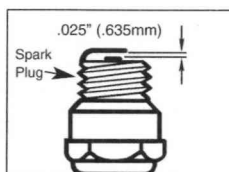

Fig. 25
1. To remove spark plug (B) (Fig. 25) for cleaning or replacement: make sure engine is off, spark plug is cool, then grasp spark plug boot firmly and remove from spark plug. Remove spark plug with correct spark plug tool. Inspect, clean or replace as needed.